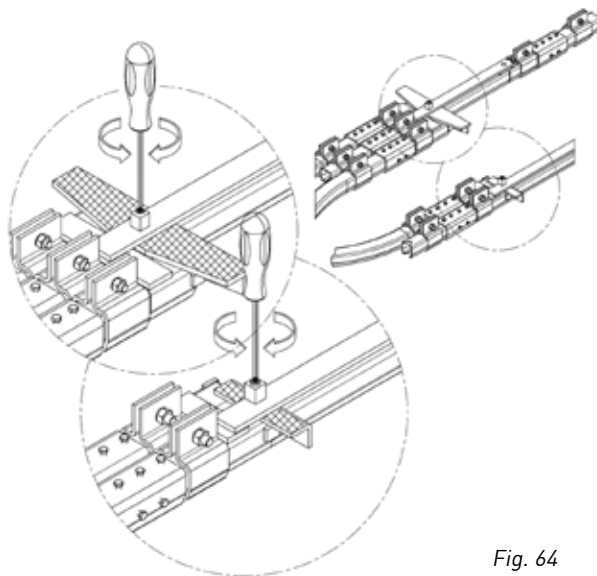

Fig. 64
- Annually, regrease the working surfaces between the rotating plates and the bearing balls of the turn table switches. (fig. 64)